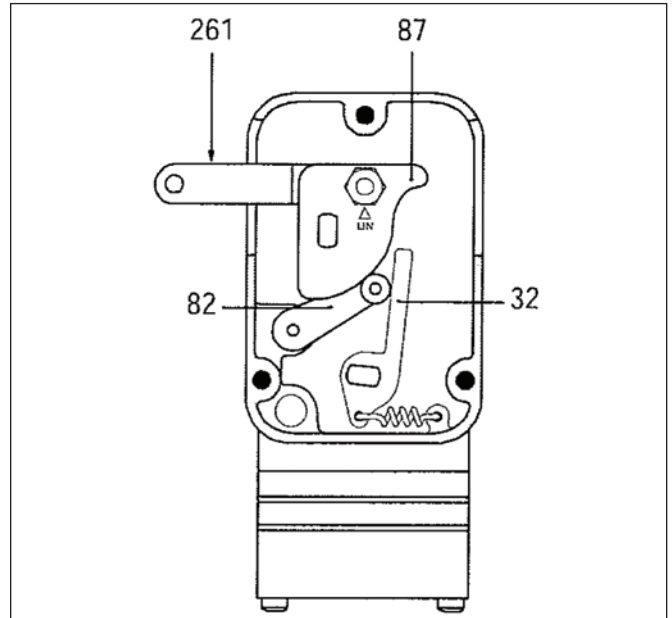

Figure A5 - Linear cam
- The rear lever (261) is always mounted on the left of the positioner when this one is seen from the rear (see figures A5 and A7).
- The mark (LIN or PERC) which appears on the visible side of the cam (87) when it is mounted must correspond to the chosen flow characteristic (linear or